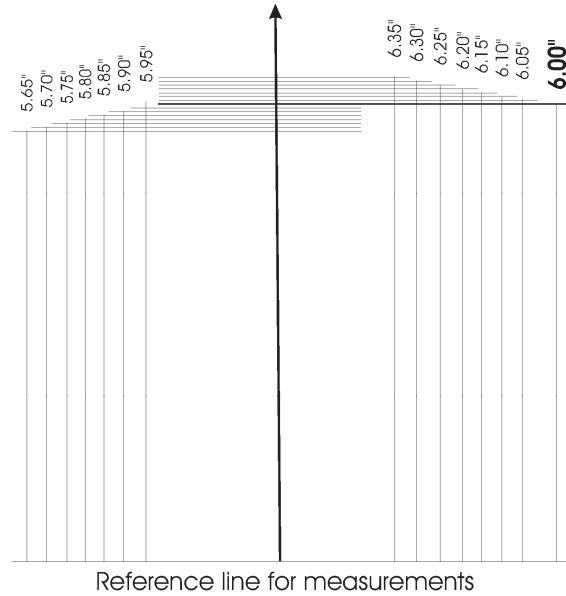

Figure 16.1.4: Measuring tool for completed Boeing 787 fuselages (not to scale, see Worksheet 2)
- Measure each fuselage using the tool provided in Figure 16.1.4 or a ruler and record their lengths in Table 16.1.1.